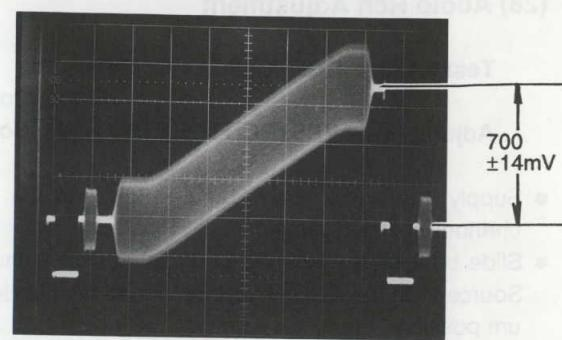

Fig. 4-17
- Adjust VR10 so that the white level of the RAMP signal becomes $700 \pm 14mV$ as shown in the Fig. 4-17.